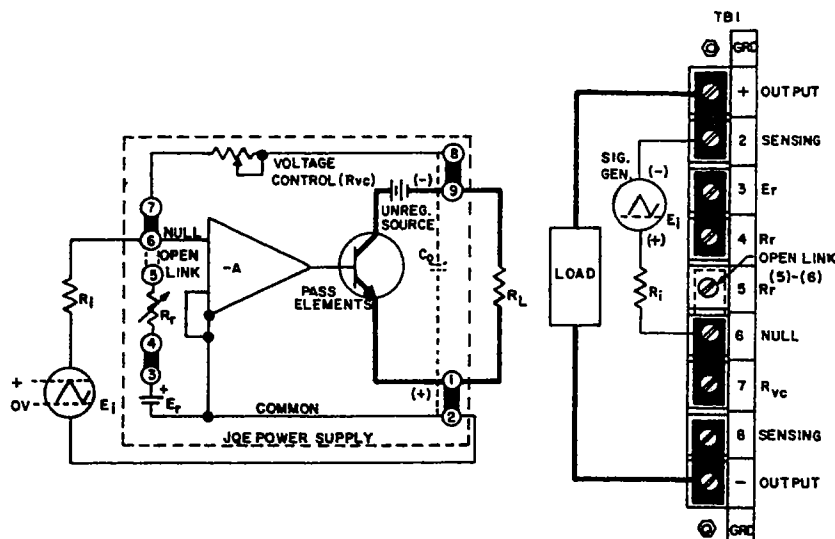

FIG. 3-9 JQE 1/4 Rack IN THE OPERATIONAL AMPLIFIER MODE.
- 3-27 As seen from the expression (Eq. 5), if the ratio R_{VC}/R_r (which represents the closed loop gain of the system) is held constant, E_o will vary linearly with E_r , the external programming voltage. The above expression (Eq. 5) is seen to be the transfer function for an operational amplifier in the inverting configuration. The voltage programmed power supply does in fact become a unipolar power amplifier with very high power gain but with limited frequency response. (Refer to FIG. 3-9). The limited frequency response is largely due to the effect of the output capacitor (C_o), acting as a low-pass filter and preventing the output voltage (E_o) from varying rapidly. The output voltage may be varied over the full range, bounded on the high end by the maximum rated value. A practical example to illustrate component selection for remote control by voltage is given in paragraph 3-28.
3-28 Example: A Kepco Model JQE 36-3M is to be voltage programmed over its full range (0 to 36V) by a triangular, positive increasing source with a peak output voltage (E_i) of 2 volts, which is able to deliver at least 1 mA control current. Since the required voltage gain is: $E_o/E_i = 36/2 = 18$, the ratio R_{VC}/R_i must also equal 18. If the internal voltage control is retained, in this case, since $R_{VC} = 40K$ ohms, R_i must equal $40K/18 = 2.22K$ ohms. FIG. 3-9 shows the JQE Power Supply as an operational amplifier and the necessary rear barrier connections for this mode of operation. As the input source varies from 0 to 2V, the JQE output voltage will change from 0 to 36 volts.